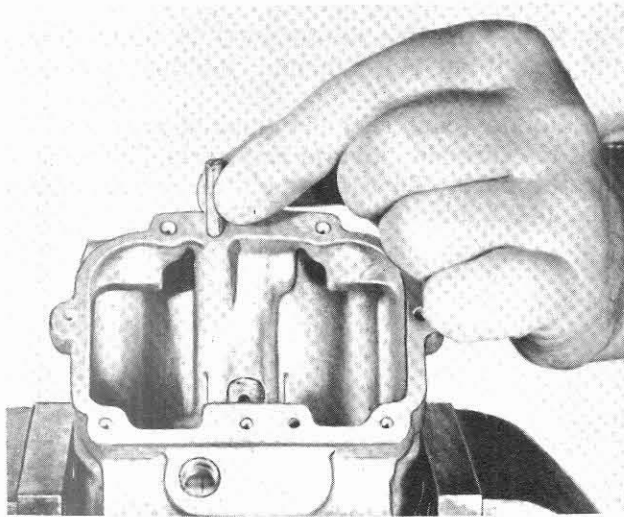

Figure 2-11. Placing Pump-Discharge Valve In Channel
c. To replace the pump discharge jet, insert a new jet with the slot up into the casting. (See figure 2-11.)